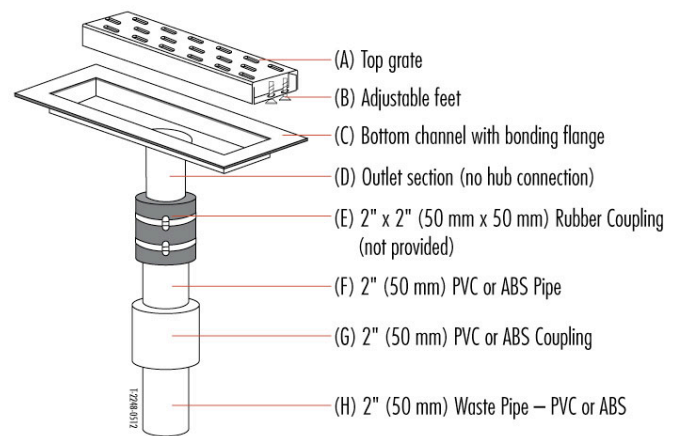

Fig. 3
Instructions to make a drain waste line connection with no access to tighten rubber coupling. Fig. 3 cut the 2" (50 mm) waste line (H) so the drain, a 2" (50 mm) rubber coupling (E), a length of 2" (50 mm) plastic pipe (F) (plastic pipe material should match waste line and plastic coupling material) and 2" (50 mm) plastic coupling (G) can be added to the drain outlet. Cement a 2" (50 mm) plastic coupling (G) to the length of the 2" (50 mm) diameter plastic pipe (F) using the appropriate cement for either PVC or ABS. Attach the rubber coupling (E) to the linear drain outlet and the length of 2" (50 mm) diameter plastic pipe (F). Tighten hose clamps on 2" (50 mm) rubber coupling (E). The final connection is made when the linear drain is installed by cementing the free end of the 2" (50 mm) diameter coupling (G) to the waste line (H).